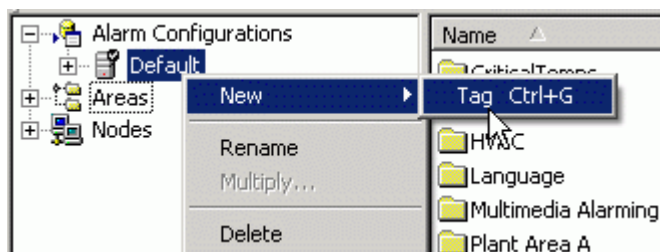

Figure 7.12. Creating a New Alarm Tag
1. Right-click on the **Default** alarm configuration in the tree control of the Configurator and select **New > Tag** from the pop-up menu, as shown in **Figure 7.12**.